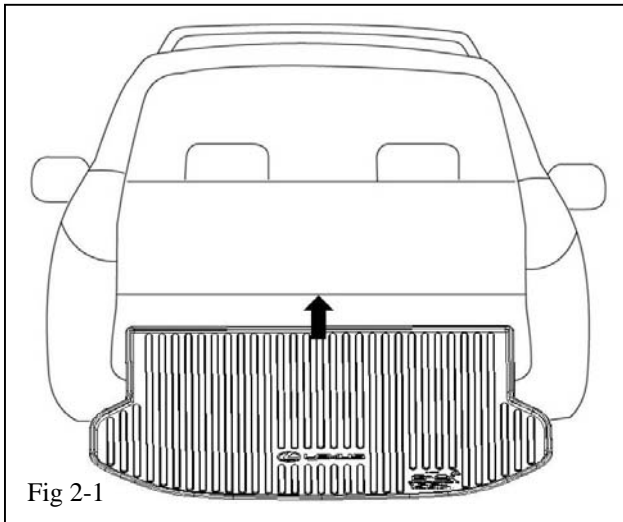

Fig 2-1
- (a) Place the Cargo Tray in the cargo area with the logo towards the rear of the vehicle and facing up (Fig 2-1).